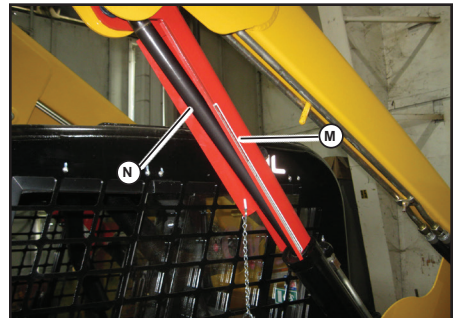

Fig. 29 - Lift Arm Support Applied
- b. Position the lift arm support (M, Fig. 29) over the lift arm cylinder rod (N, Fig. 29).
9. Start the machine and lower the lift arm against lift arm support (M). Verify that lift arm support (M) is properly positioned as shown in Fig. 29.
- a. Remove lift arm support (M, Fig. 29) from the cylinder rod.